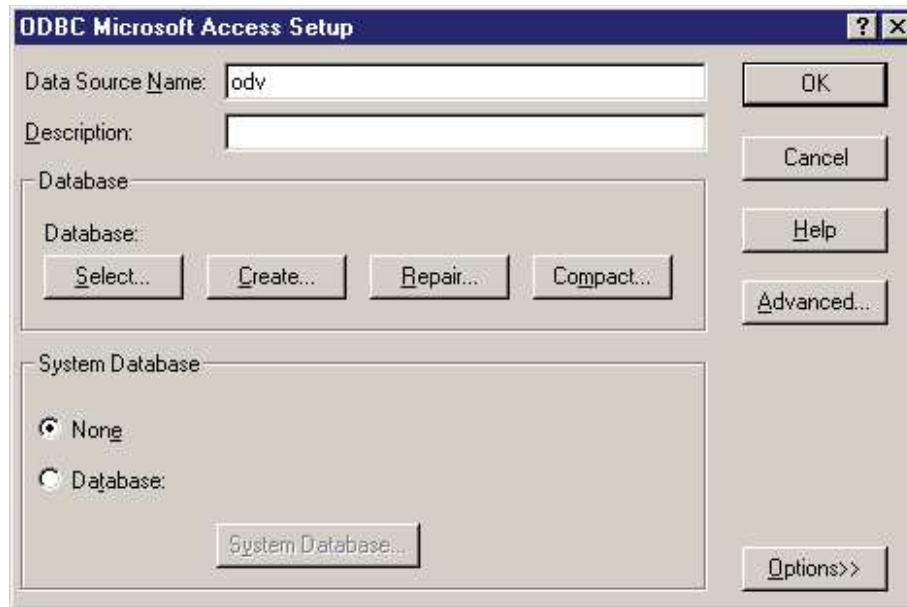

Figure 260 Entering the Data Source Name
12. Type **odv** in the **Data Source Name** field. See Figure 260.